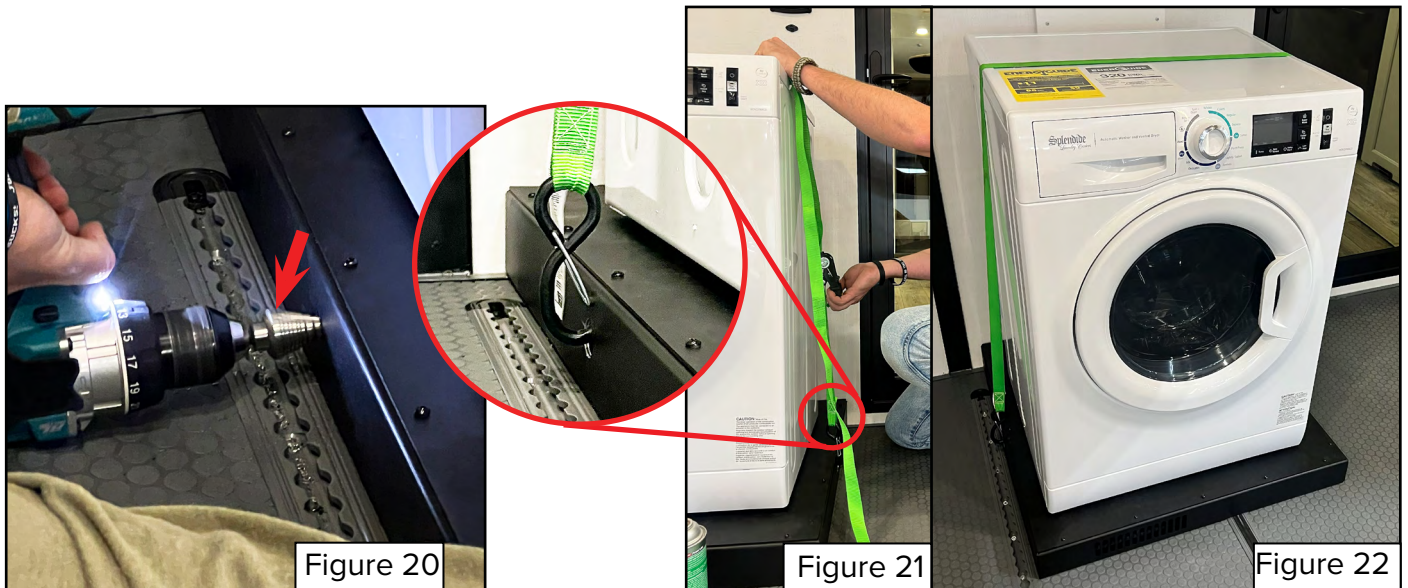

Figure 17
15. Connect the dryer vent hose to the exterior dryer vent cover and clamp securely in place. Route the dryer vent hose behind the wall, then through the hole, and connect to the dryer exhaust (Figure 17).
14. Have two people pick up the washer/dryer combo, and place it centered onto the installed platform (Figure 17).